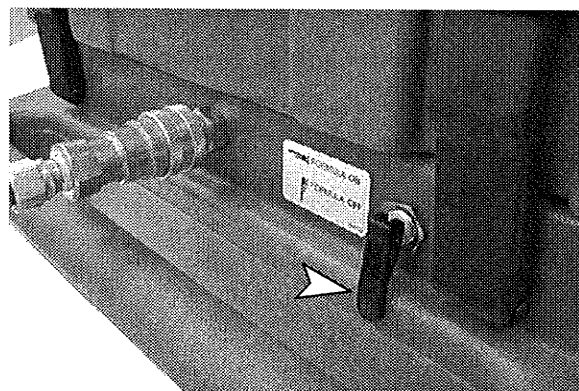

FIG. 34
3. Turn the FORMULA ON/OFF lever to the OFF position, located at front of machine (Figure 34).